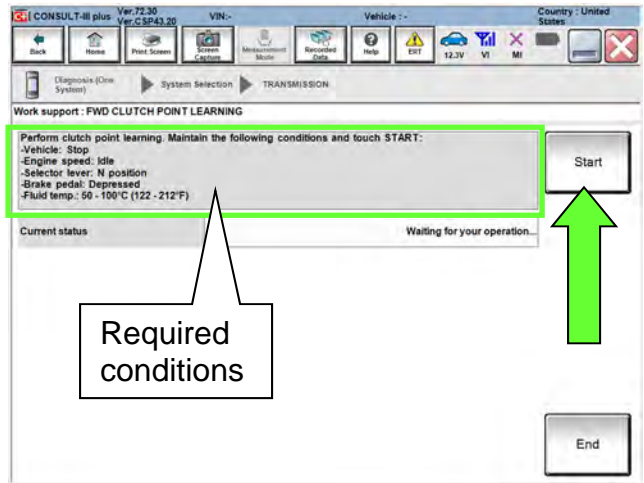
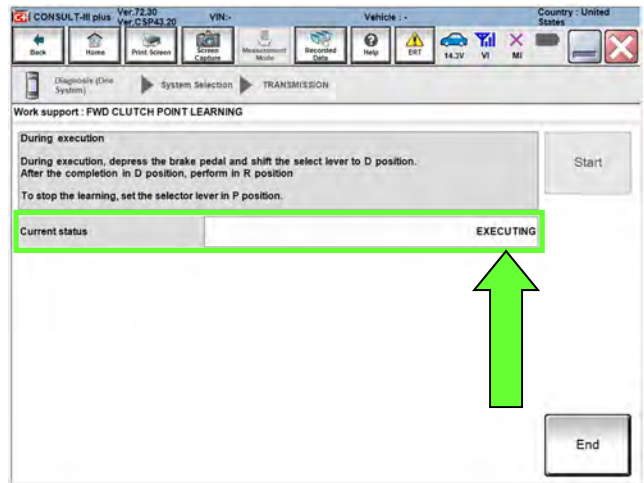
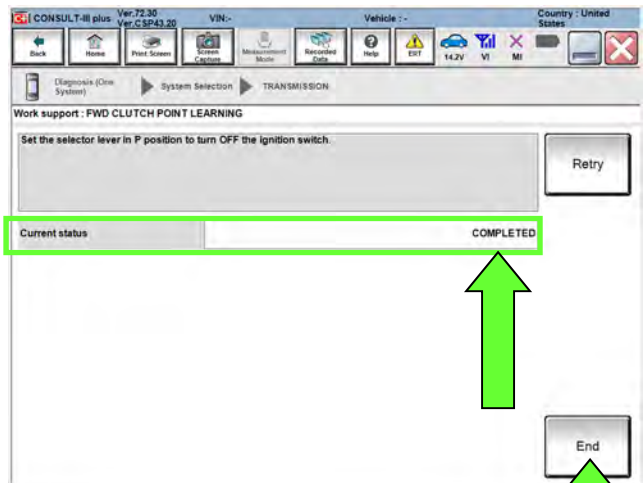

Figure 43
Figure 44
Figure 45
53. With the engine still running and at idle, depress the brake pedal and shift the CVT into neutral (N).
- Confirm that all of the required conditions indicated in Figure 43 are being met.
55. While maintaining all conditions shown in Figure 43 and the “Current status” indicates “EXECUTING” as shown in Figure 44, shift the CVT into **D** and then wait until the Current status indicates “COMPLETED” as shown in Figure 45.
56. When the screen in Figure 45 is displayed, shift the CVT into Park (P), and then select **End**.